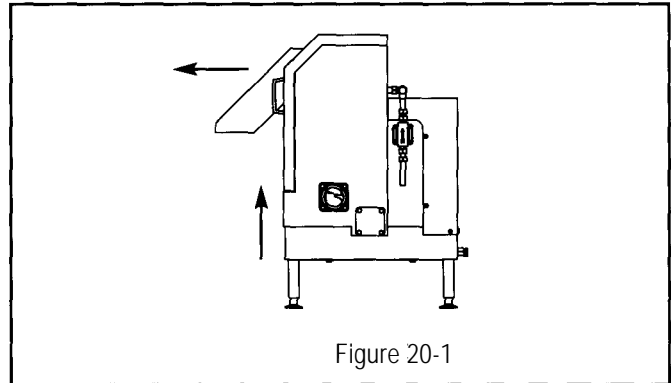

Figure 20-1
2. Holding both handles, remove discharge chute by tilting it upward (see figure 20-1).